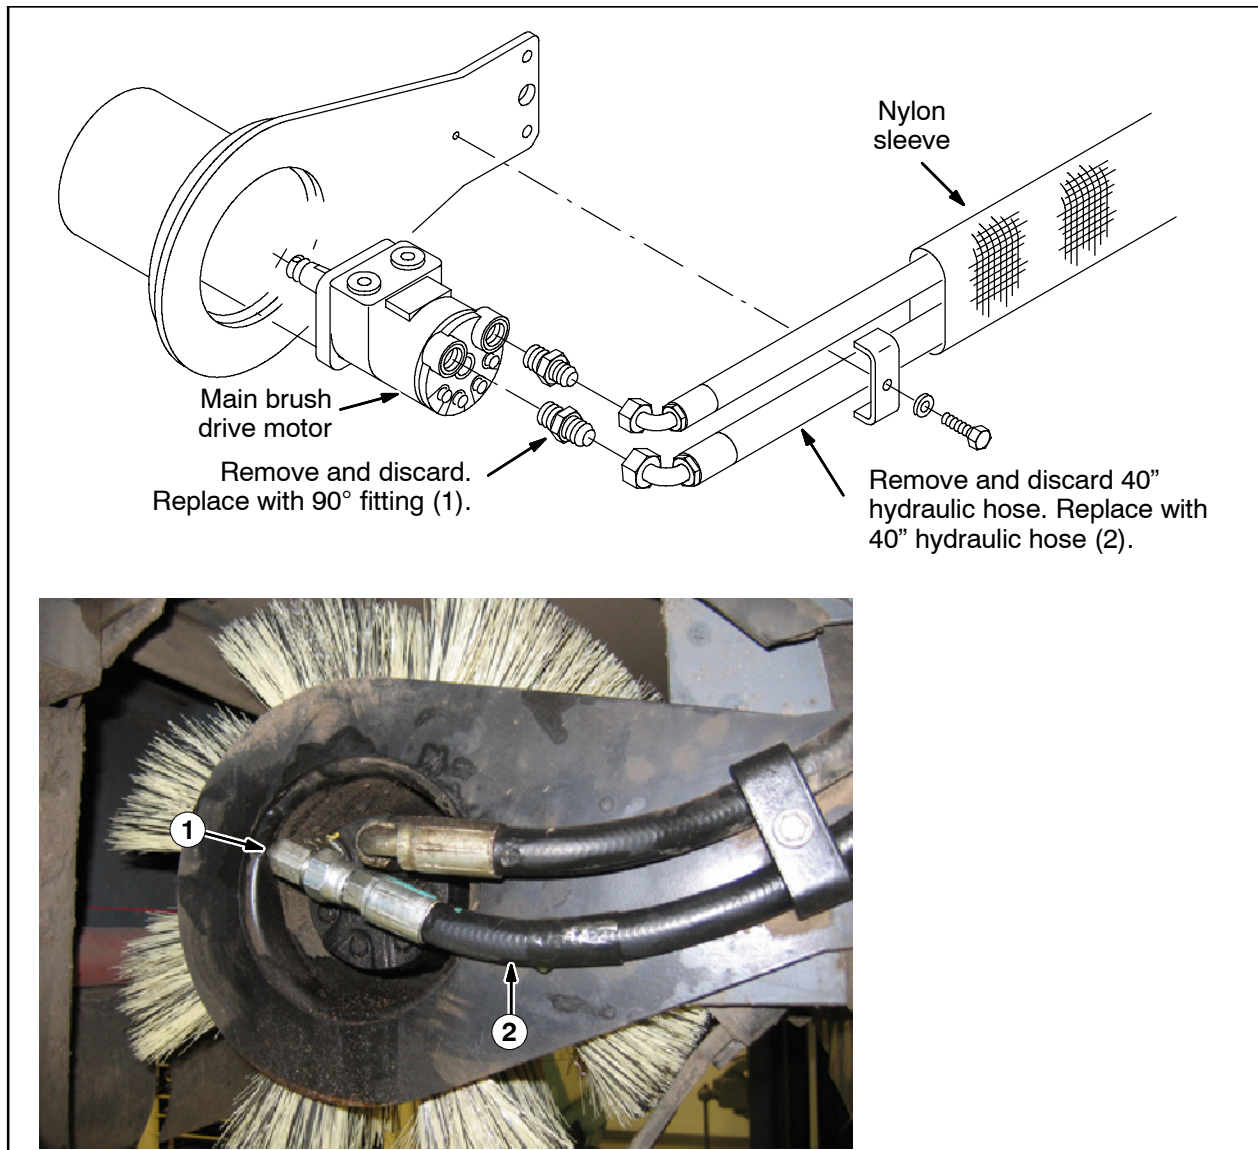

FIG. 1
1. Remove the 40" hydraulic hose from the main brush drive motor and hydraulic control valve port M2. Discard the hose. Refer to Fig. 1.
2. Remove the straight fitting from the main brush drive motor. Discard the straight fitting. Refer to Fig. 1.
3. Tighten the 90° fitting (1) into the main brush drive motor. Refer to Fig. 1.
4. Connect the new 40" hydraulic hose (2) to the 90° fitting installed in the main brush drive motor in the previous step. Refer to Fig. 1.
5. Route the 40" hydraulic hose through the nylon sleeve, to the hydraulic control valve, and connect the hose to the hydraulic control valve port M2, where the discarded 40" hydraulic hose was previously installed. Refer to Fig. 1.